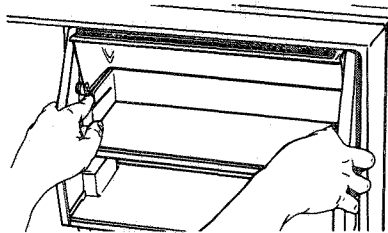

Figure 12
c. Push lock tabs in dairy compartment toward center with thumbs and forefingers. See Figure 12.
d. While holding in lock tabs, pull dairy and second serving shelf system straight out. See Figure 12.